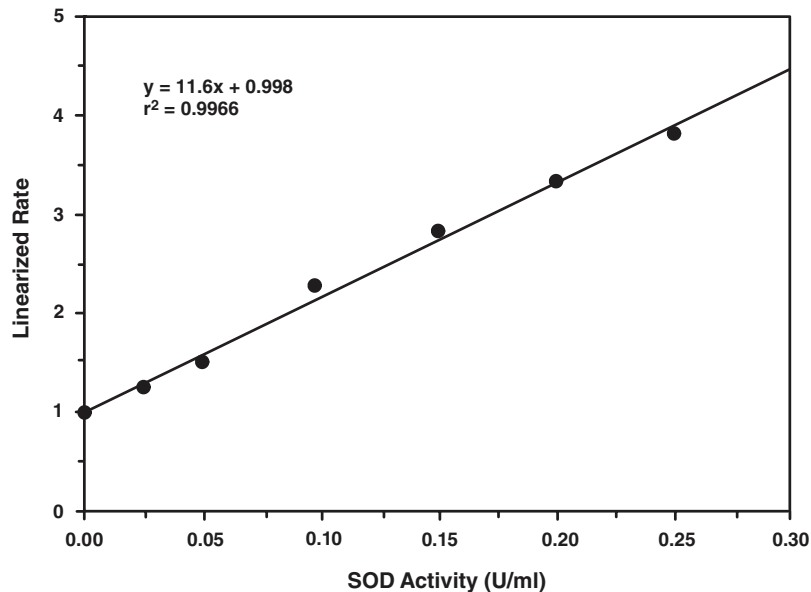

Figure 3. Superoxide Dismutase standard curve
- Divide standard A's absorbance by itself and divide standard A's absorbance by all the other standards and samples absorbances to yield the linearized rate (LR) (*i.e.*, LR for Std A = Abs Std A/Abs Std A; LR for Std B = Abs Std A/Abs Std B).
- Plot the linearized SOD standard rate (LR) (from step 2 above) as a function of final SOD Activity (U/ml) from Table 1. See Figure 3 (on page 14) for a typical standard curve.
- Calculate the SOD activity of the samples using the equation obtained from the linear regression of the standard curve substituting the linearized rate (LR) for each sample. One unit is defined as the amount of enzyme needed to exhibit 50% dismutation of the superoxide radical. SOD activity is standardized using the cytochrome c and xanthine oxidase coupled assay